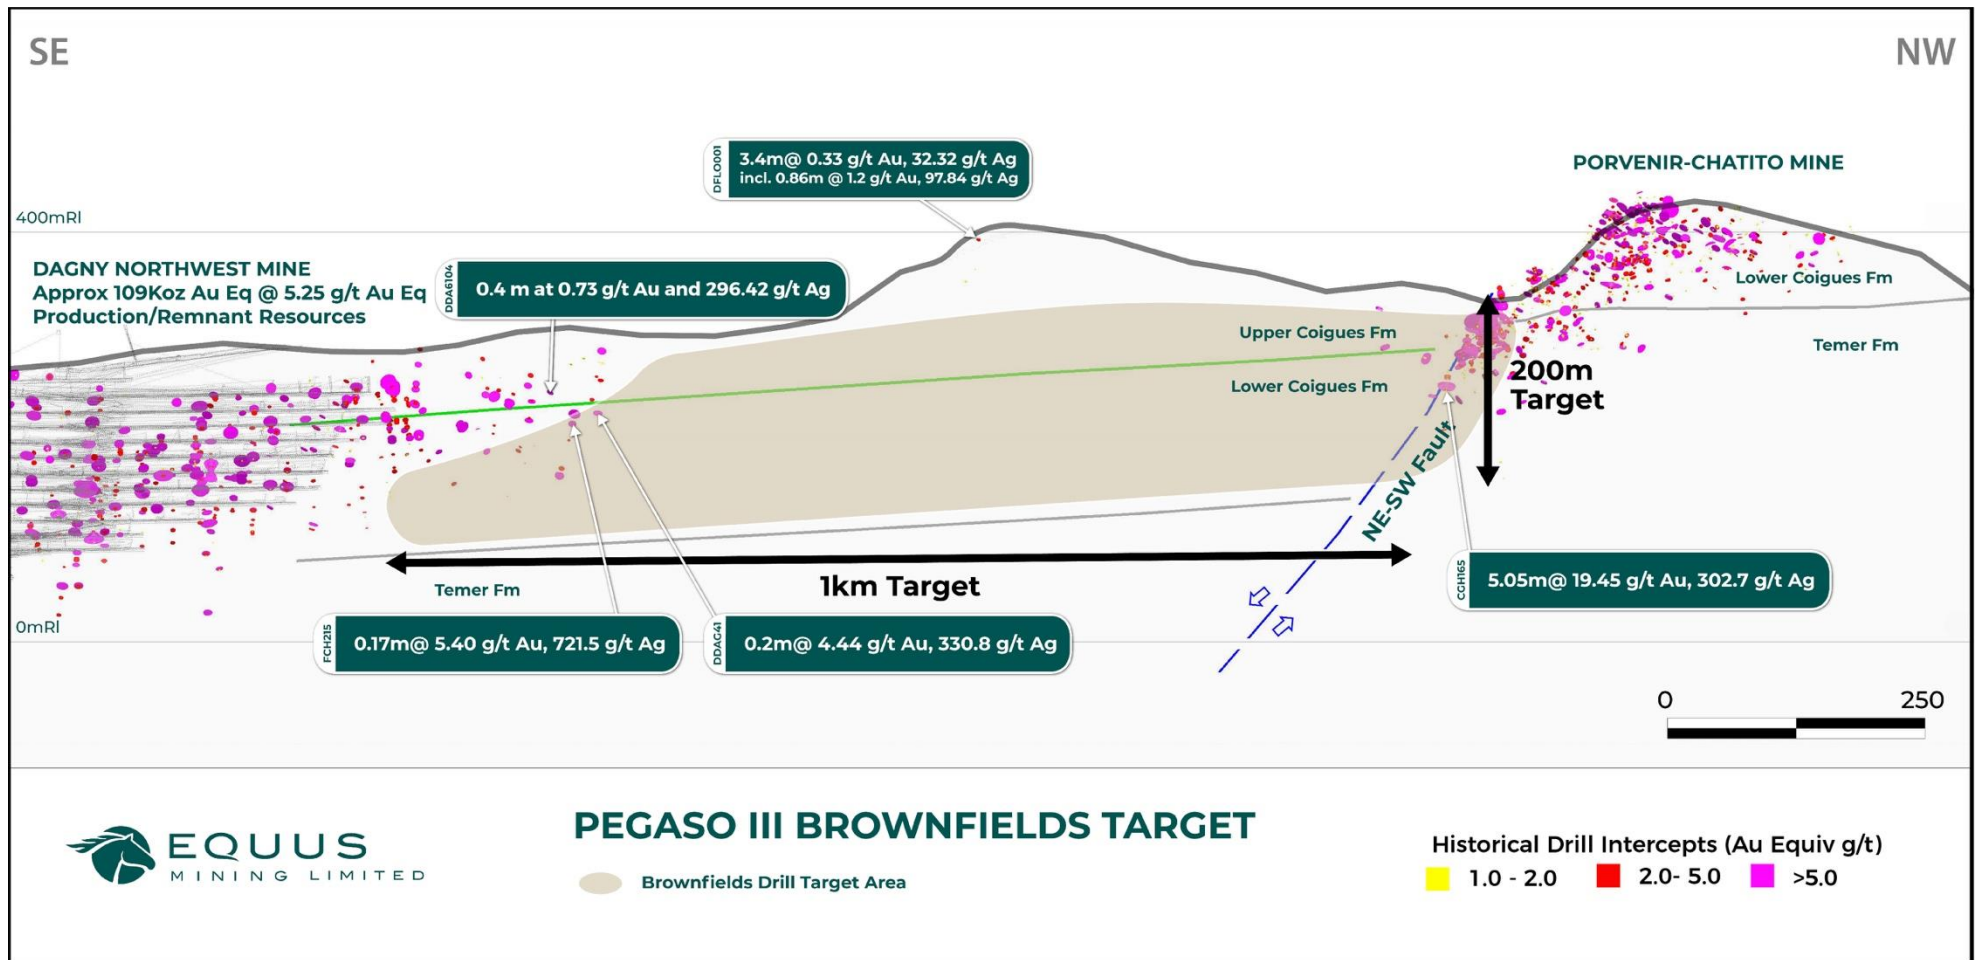

Figure 3 - Pegaso III Brownfields Target, with historical drilling results and target area
- ▶ **PEGASO III:** 1km long trend which extends along strike of host faulting between the Dagny and Porvenir-Chatito Mines (Figure 3). Historic gold and silver intercepts include²: